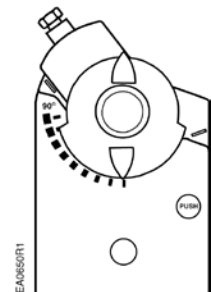

Figure 25.
- e. Place the position indicator to the "0" position on the outside scale. See Figure 25.